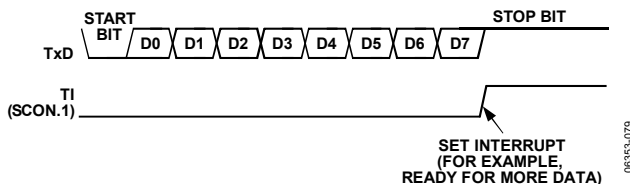

Figure 103. 8-Bit Variable Baud Rate
Transmission is initiated by a write to the Serial Port Buffer SFR (SBUF, 0x99). Next, a stop bit (1) is loaded into the ninth bit position of the transmit shift register. The data is output bit-by-bit until the stop bit appears on TxD and the transmit interrupt flag (TI) is automatically set as shown in Figure 103.